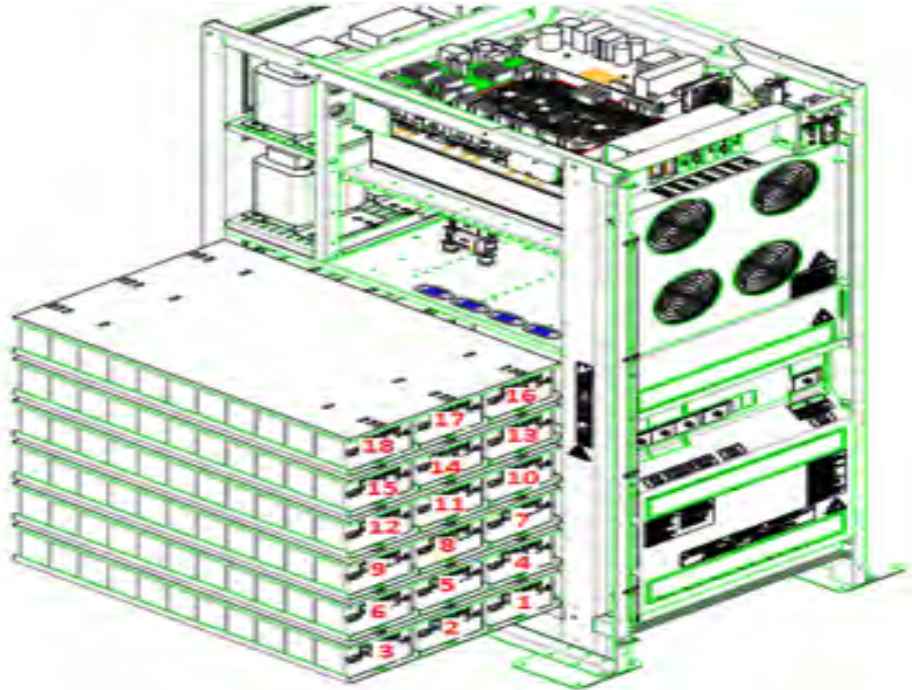

Figure 48 – 7/9/11Ah 12V battery trays side view INGENIO PLUS 60kVA
- 1) Remove the six screws to open the side panels (right/left) and access the battery trays (Total shelves 6 and each one is composed of three battery drawers Fig 48,49)